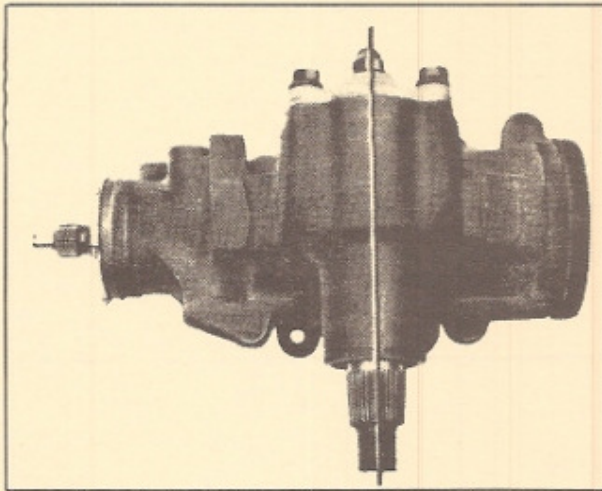
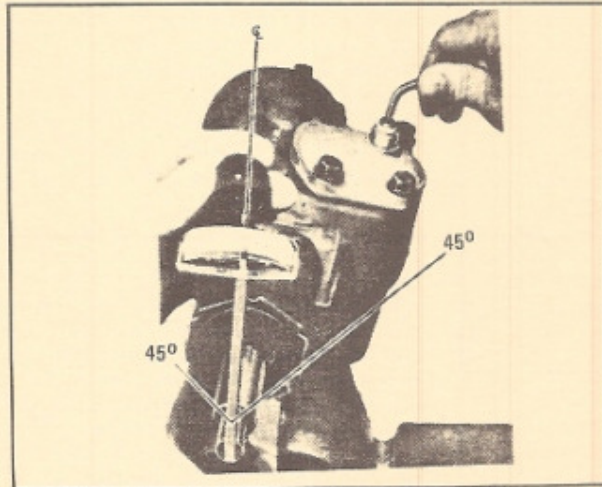

Figure 138 – Aligning Sector Shaft Block Tooth
Figure 139 – Checking Overcenter Rotational Torque
3. Rotate the torque wrench approximately 45 degrees each side of the center, and "read" near or on center (highest reading) (see figure 138). Turn the mesh adjusting screw until the correct "O" center torque, in excess of the reading just taken, is obtained (see figure 139).